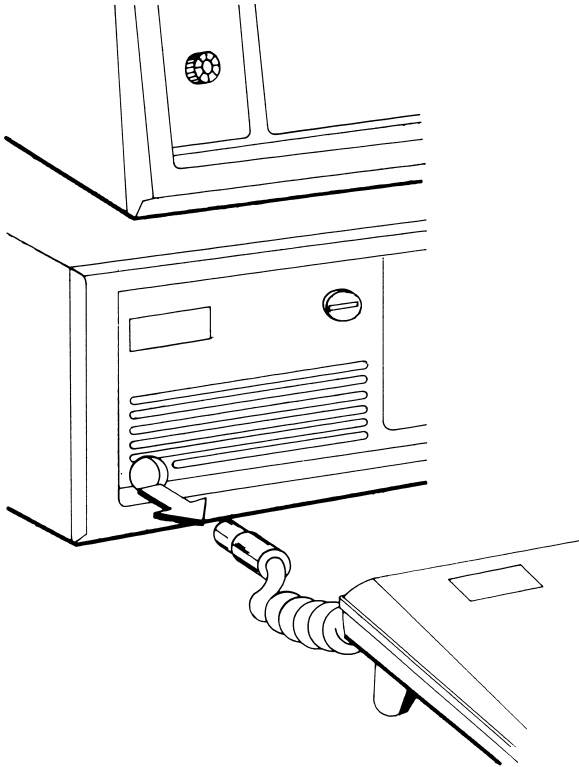

Figure 7-4. Removing the Keyboard.
2. Disconnect the keyboard by gently pulling the keyboard connector from the connector on the front of the system unit (Figure 7-4).